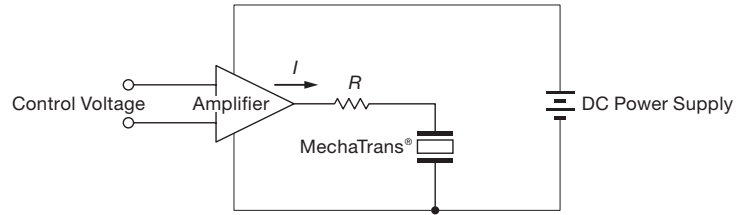

Fig. 5
1) In case of Analog drive circuits; refer to Fig. 5